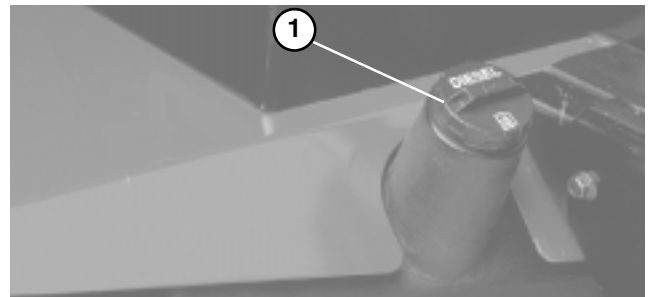

Figure 16
1. Remove fuel tank cap (Fig. 16).